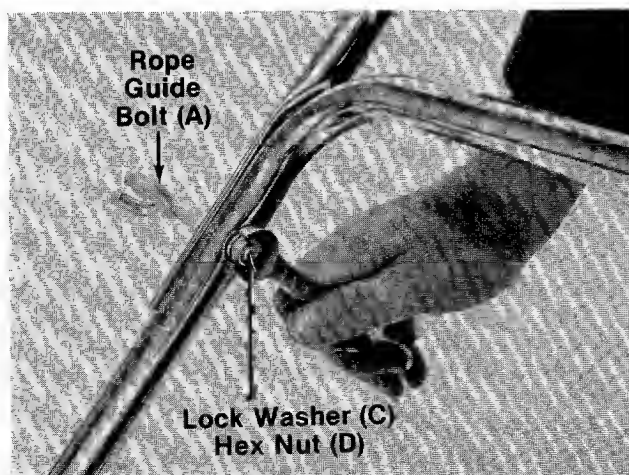

FIGURE 3.
- Place the upper handle in position over the lower handle. The throttle control must be on the left hand side of the handle. Secure the right hand side of upper handle using the rope guide bolt (A), lock washer (C) and hex nut (D) as shown in figure 3.